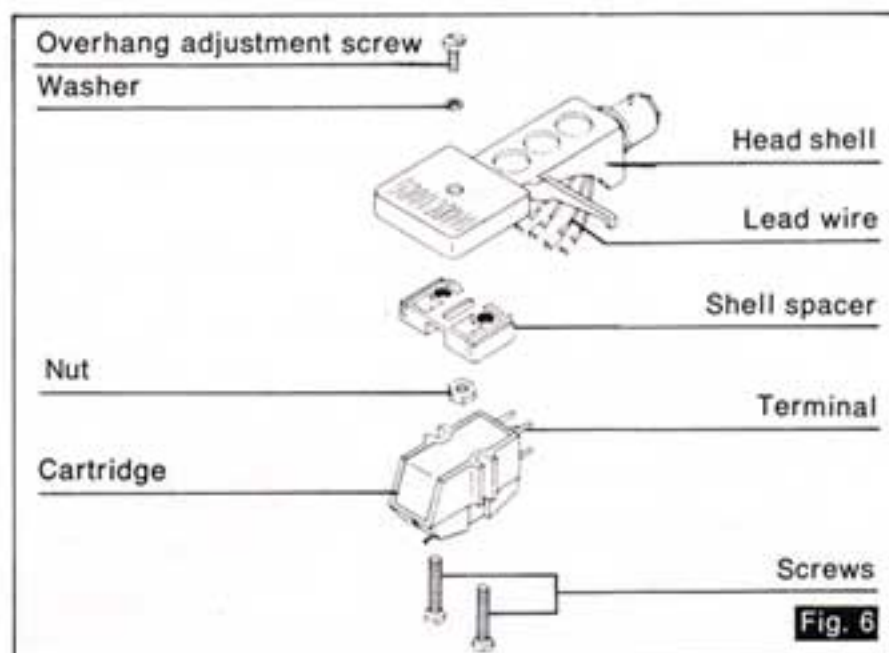

Fig. 6
2. Install the cartridge to the spacer, and tighten it with screws provided with the cartridge. (See Fig. 6)